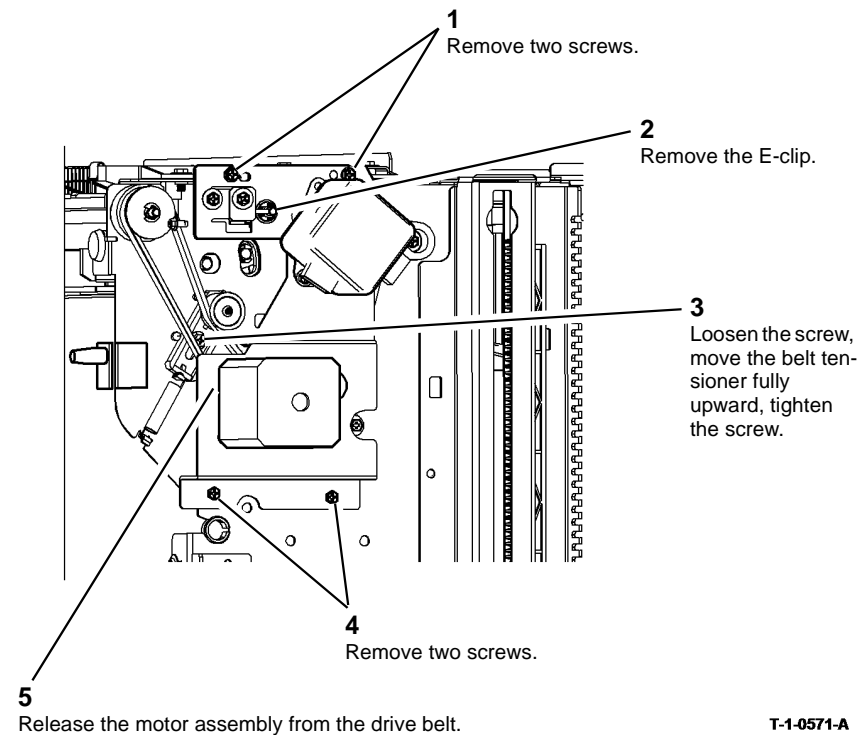

Figure 1 Preparation
2. Prepare to remove the drive belt, Figure 1.